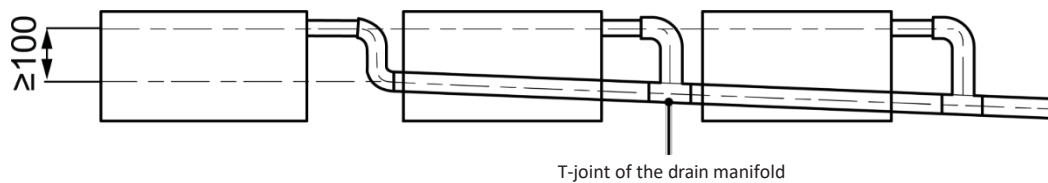

Fig. 4.11
- 4 When connecting multiple drain hoses, follow the instructions shown in Fig. 4.11.